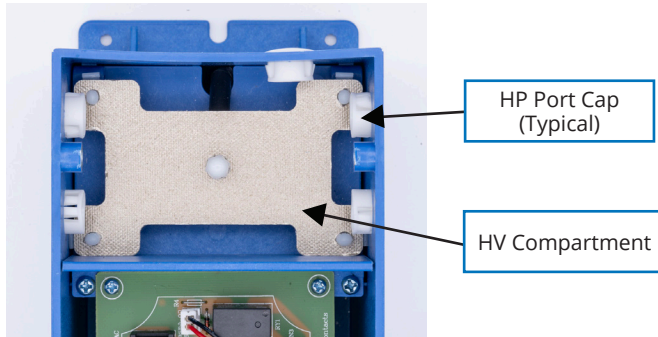

Figure 16
Step 5 - The high voltage (HV) compartment has 6 HV ports. Refer to FIGURE 16. Based on the jobsite specific wiring route, access to the right, left or top side may be desired. Remove the plug from the port desired and fill the port not used with the spare plug. **DO NOT RUN HIGH VOLTAGE CABLES THROUGH THE CONTROL PORTS. DO NOT RUN CONTROL WIRING THROUGH HIGH VOLTAGE (HV) PORTS! REFER TO FIGURE 16.**